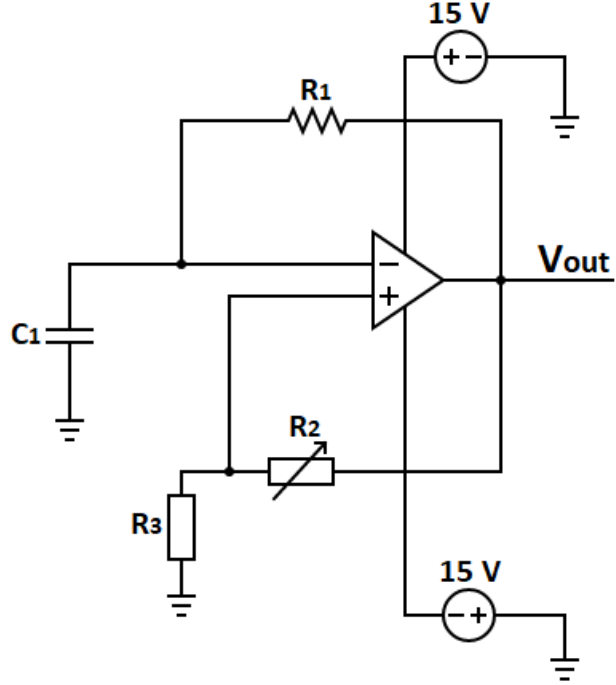

Fig. 1: Square wave generator circuit.
- 1) Assemble the Square Wave Generator circuit as shown in Figures 1 and 2, using the components listed in Table VIII. Ensure that all connections are